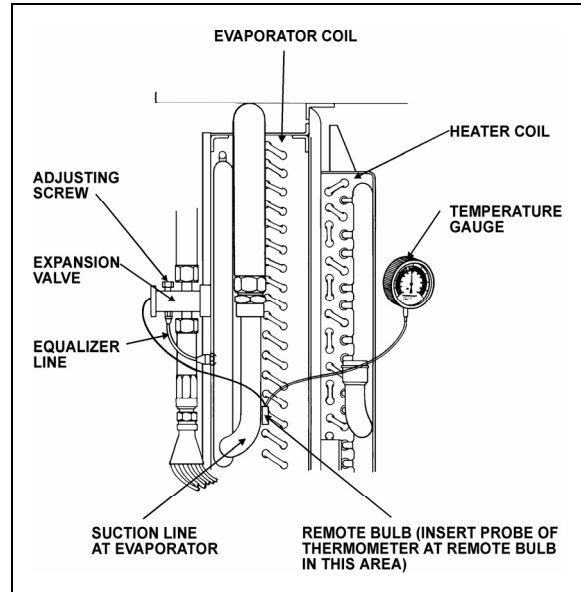

FIGURE 38: SUPERHEAT ADJUSTMENT INSTALLATION22046
The starting method of adjusting the superheat is to unscrew completely the main evaporator expansion valve adjusting screw, then screw in 13 turns clockwise for 134A (Fig. 38). Afterwards, the following procedure should be followed:
3. Install a remote reading thermometer to the evaporator outlet line near the existing remote bulb (Fig. 38).